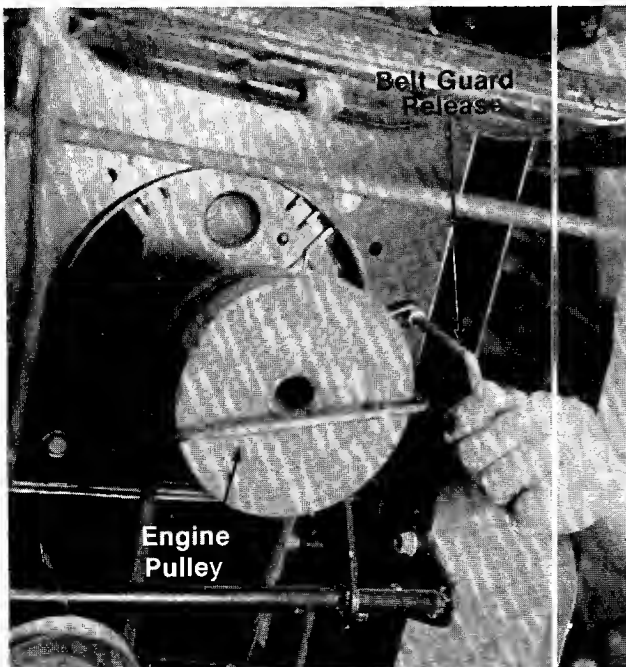

FIGURE 19.
4. Unscrew the belt guard release next to the engine pulley. See figure 19.